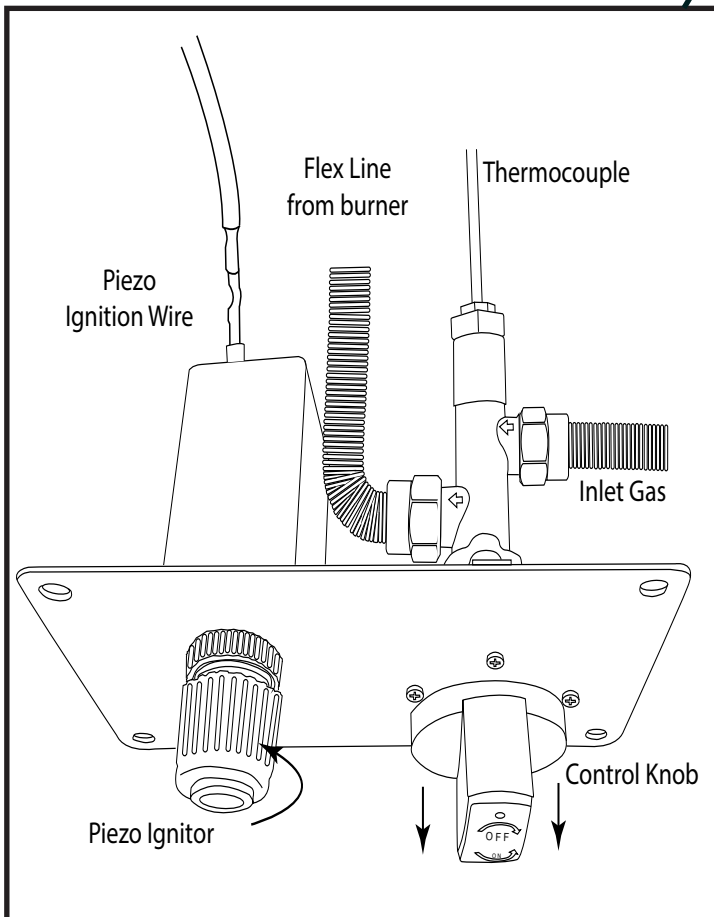

Fig. 7 Removing knobs from control panel.
Step 1: Remove the burner pan from the carton and install the inlet gas line to the gas valve. See Fig. 7.
Step 2: Pull the control knob off of the gas valve located on the control panel. See Fig. 7.
Step 3: Remove the black cap with red button off of the Piezo ignitor from the control panel. See Fig. 7.